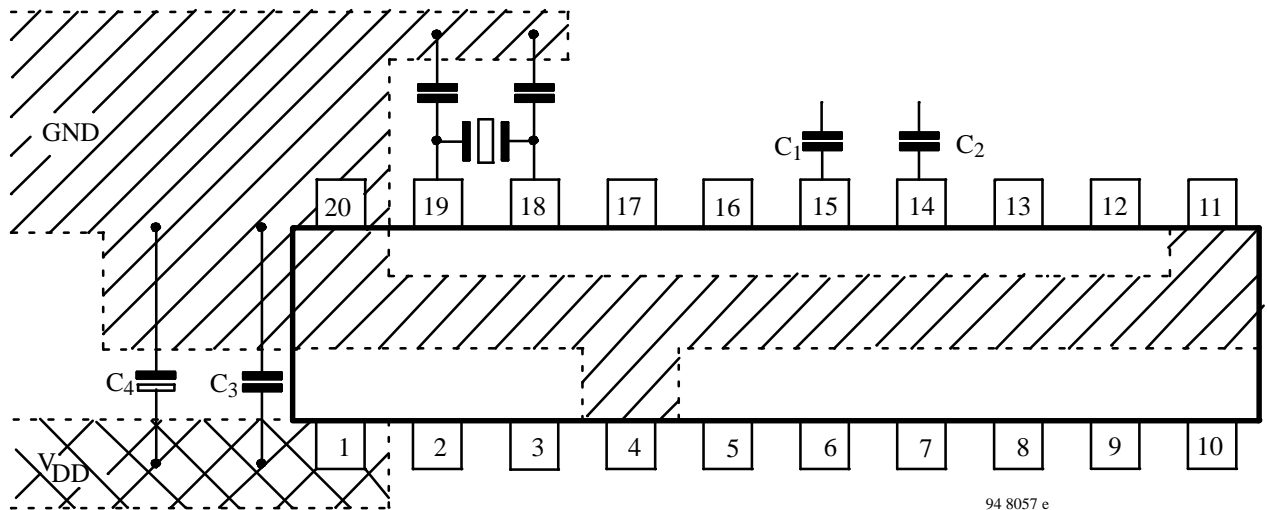

Figure 6.
- GND 2 (Pin 10 – analogue ground) and GND 1 (Pin 20 – digital ground) must be connected according to figure 6.